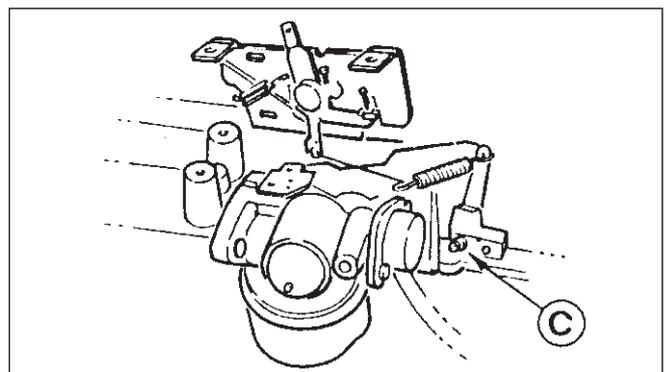

Fig. 21
NOTE - The screw (C) for the governor lever is a left hand thread screw. (Fig 21).